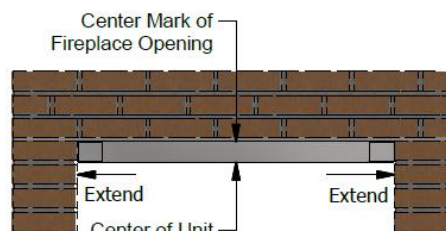

Figure 3a
2. Align the Center Mark of the Fireplace Opening with the Center of the Unit. (Figure 3a)
3. Extend the Side Frames ② and ③
Mark the hole locations on the Fireplace using a pencil. (Figure 3a)